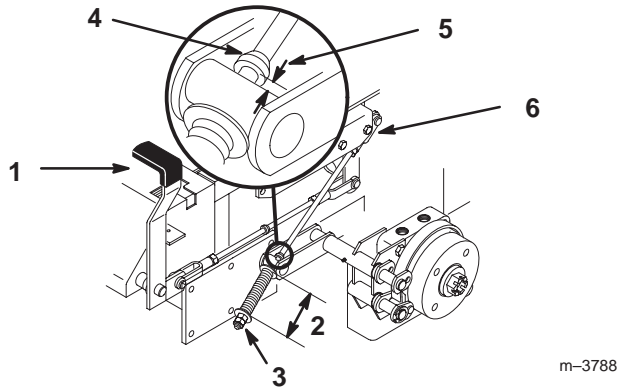

Figure 67
2. Measure the length of the spring. The measurement should be 2-3/4 inch (70 mm) between the washers (Fig. 67).
3. If an adjustment is necessary, loosen the jam nut below the spring and tighten the nut directly below the yoke (Fig. 67). Turn the nut until the correct measurement is obtained. Tighten the two nuts together and repeat on the opposite side of the unit.
6. Measure the distance between the trunnion roller and the collar on the brake rod. The measurement should be 3/16–1/4 inch (5–7 mm) (Fig. 67).
7. If an adjustment is necessary, loosen the jam nut directly below the yoke. Turn the bottom rod until the correct measurement is obtained (Fig. 67). Tighten the jam nut at the yoke.